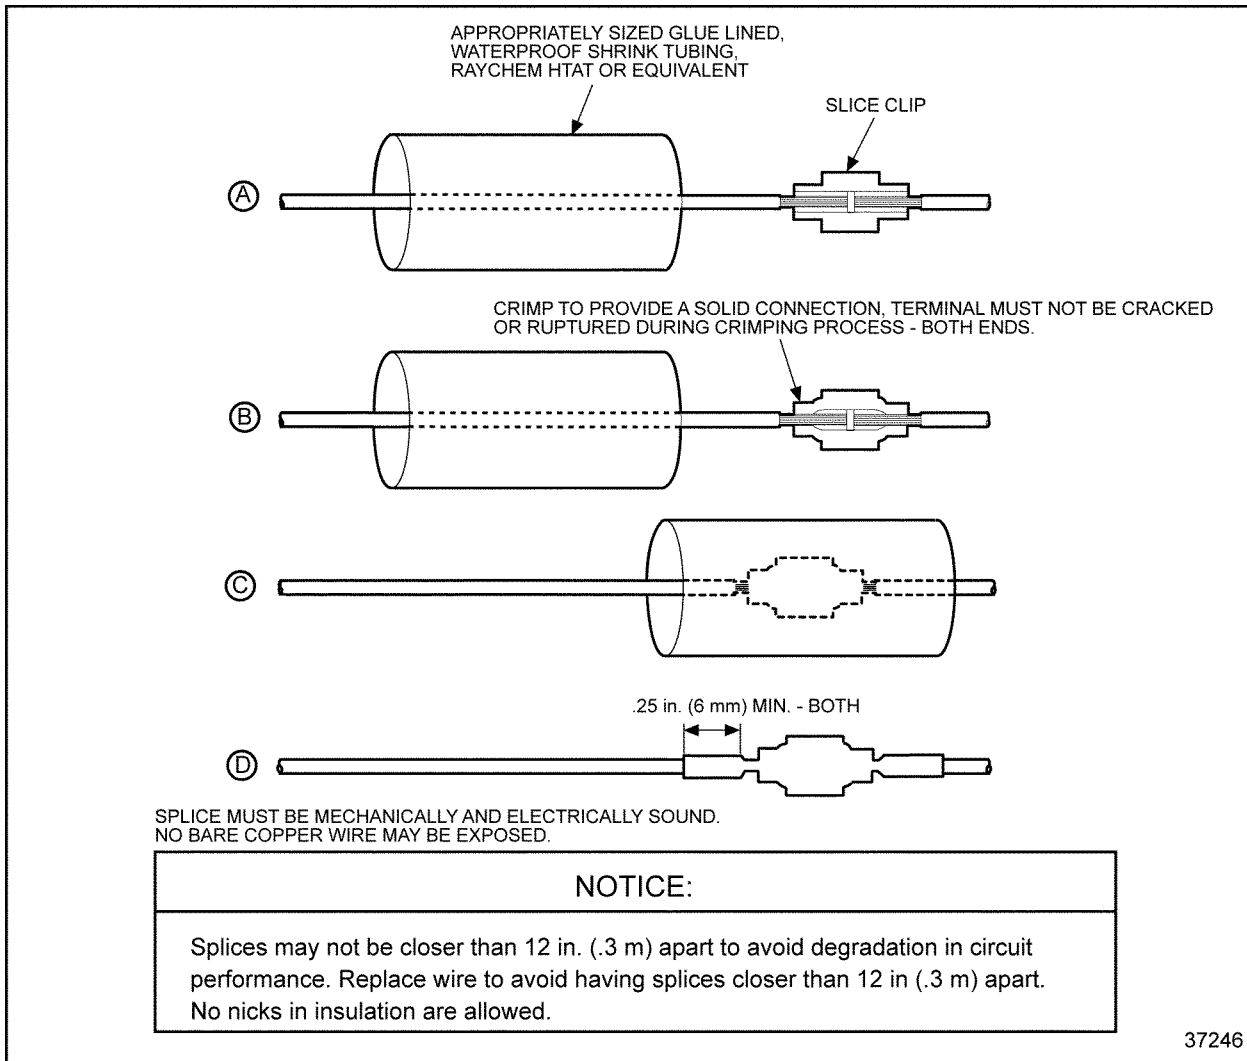

Figure 2-18 Splicing Straight Leads - Alternate Method 2
3. Slide a sleeve of glue lined, shrink tubing (Raychem HTAT or equivalent) long enough to cover the splice clip on the wire and overlap the wire insulation, about .25 in. (6 mm) on both sides (see Figure 2-18, A).
4. Insert one wire into splice clip until it butts against the splice clip. Stop and crimp (see Figure 2-18, B).
5. Insert the remaining wires into the splice clip one at a time until each butts against the splice clip; stop and crimp (see Figure 2-18, B).
7. Slide the shrink tubing over the crimped splice clip (see Figure 2-18, C).
8. Shrink tubing with a heat gun to seal the splice (see Figure 2-18, D).